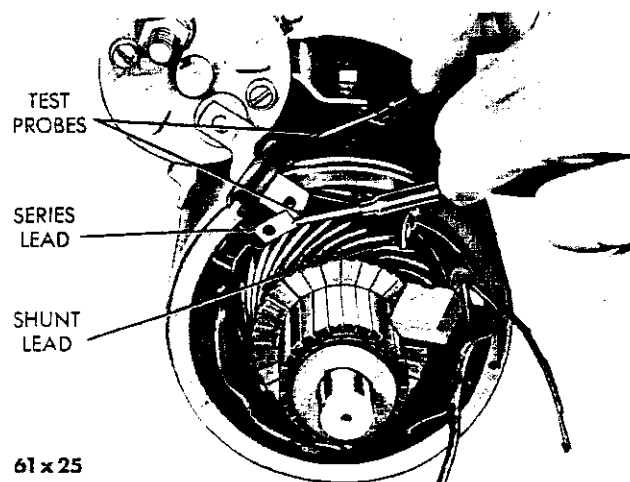

Fig. 15—Testing the Series Coil for Ground
(5) Touch one probe of the test lamp to the series field coil lead and the other probe to the field frame (Fig. 15). The lamp should not light.